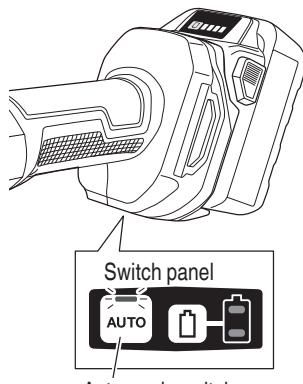

Fig. 14
11. About the mode change function (Fig. 14)